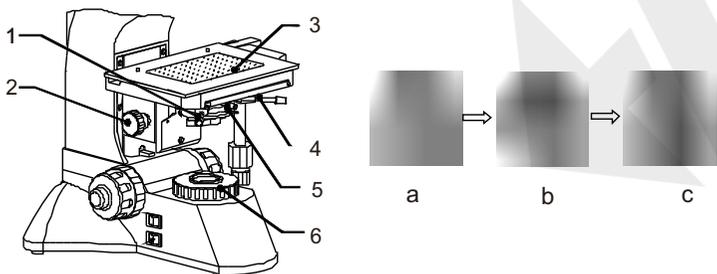

Fig. 16
(1) Put the sample on the glass stage 3, adjust the substage adjustment knob 2, and make the condenser to the highest position.
(2) Turn 10X objective into optical path, turn down the field diaphragm 6 little compare with field, as shown in 16-a, if the field diaphragm not in the center of field, it can be adjusted by the screws 4 to the center of field, as be shown in Fig.16-b. Restart the field diaphragm to larger than field.
(3) Observing in the low magnification objective; please turn the accessional lens 1 to the light path.